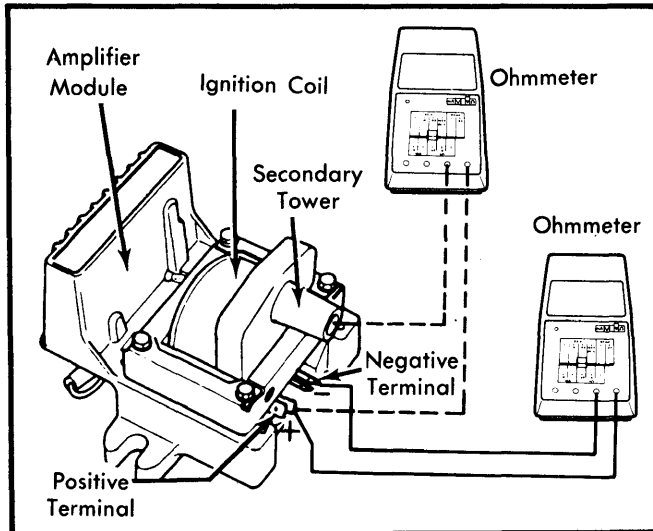

Fig. 7 Ohmmeter Hookup for Making Ignition Coil Resistance Tests
1) Using an ohmmeter set in the low scale, connect leads to coil primary (positive and negative) terminals. Resistance should be .48-.61 ohms. See Fig. 7.